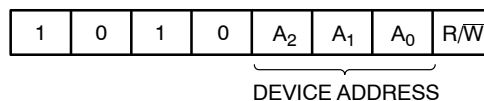

Figure 3. Slave Address Bits
The Master addresses a Slave by creating a START condition and then broadcasting an 8-bit Slave address. For the NV24C64LV, the first four bits of the Slave address are set to 1010 (Ah); the next three bits, A₂, A₁ and A₀, must match the logic state of the similarly named input pins. The R/W bit tells the Slave whether the Master intends to read (1) or write (0) data (Figure 3).